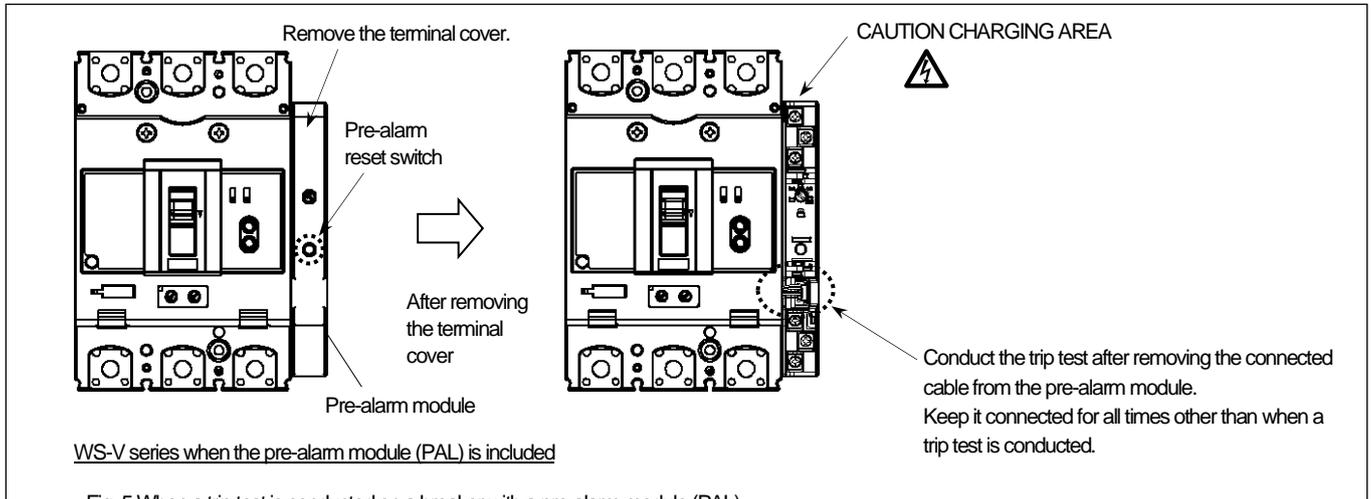

Fig. 5 When a trip test is conducted on a breaker with a pre-alarm module (PAL)
Disconnect the PAL contact relay connector of the test cable when connecting to an insulating relay. (Fig. 5)
(3) Precautions for using a WS-V series circuit breaker
- When conducting a trip test on a circuit breaker with a pre-alarm module (PAL), remove the connection cable between the circuit breaker and the pre-alarm module in advance. The connection cable can be connected/disconnected via the lock connector on the pre-alarm module side. (Fig. 5) (Note 1)
Before conducting a trip test, be sure to remove the connection cable. (Fig. 5) (Note 1)
- When conducting a trip test on a WS-V series with the pre-alarm module (PAL), remove the connection cable between the circuit breaker and the pre-alarm module in advance. (Refer to Fig. 5 in "5.1 Procedure and precautions for use" for details.)